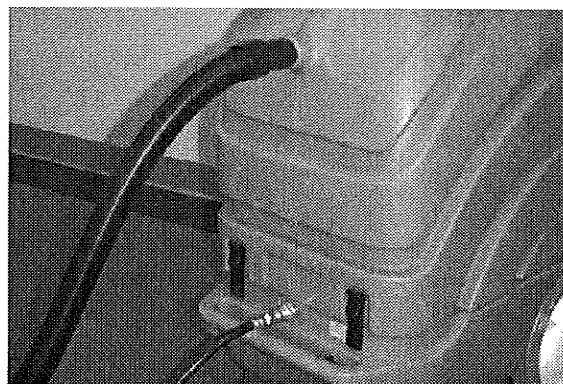

FIG. 33
2. Use the equipped vacuum and solution hoses and connect them to floor tool and then to front of machine (Figure 33).